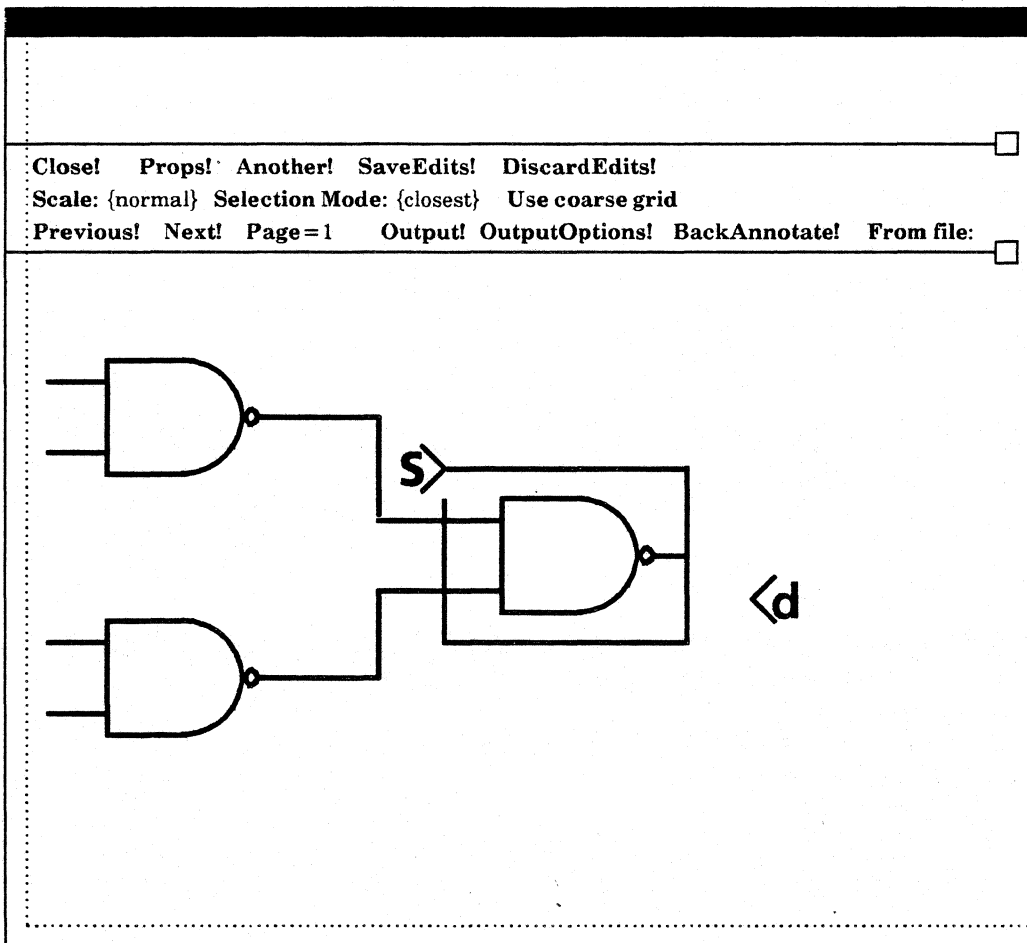

Figure 2.38
- 2) Mark the location to which you want to move the object with the destination marker (figure 2.38). The source and destination markers act as anchor points showing the distance to move the selected object. When the system moves the object, it moves the source marker to the destination location, and moves the item so that it retains its relationship with the source marker.